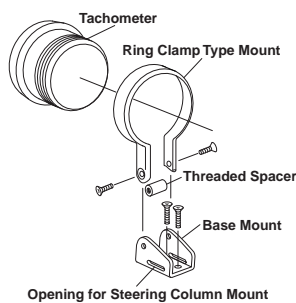

Figure 1
3. Using the spacer and bolts provided, secure the tachometer and ring clamp type mount assembly to the base bracket. SEE FIGURE 1.